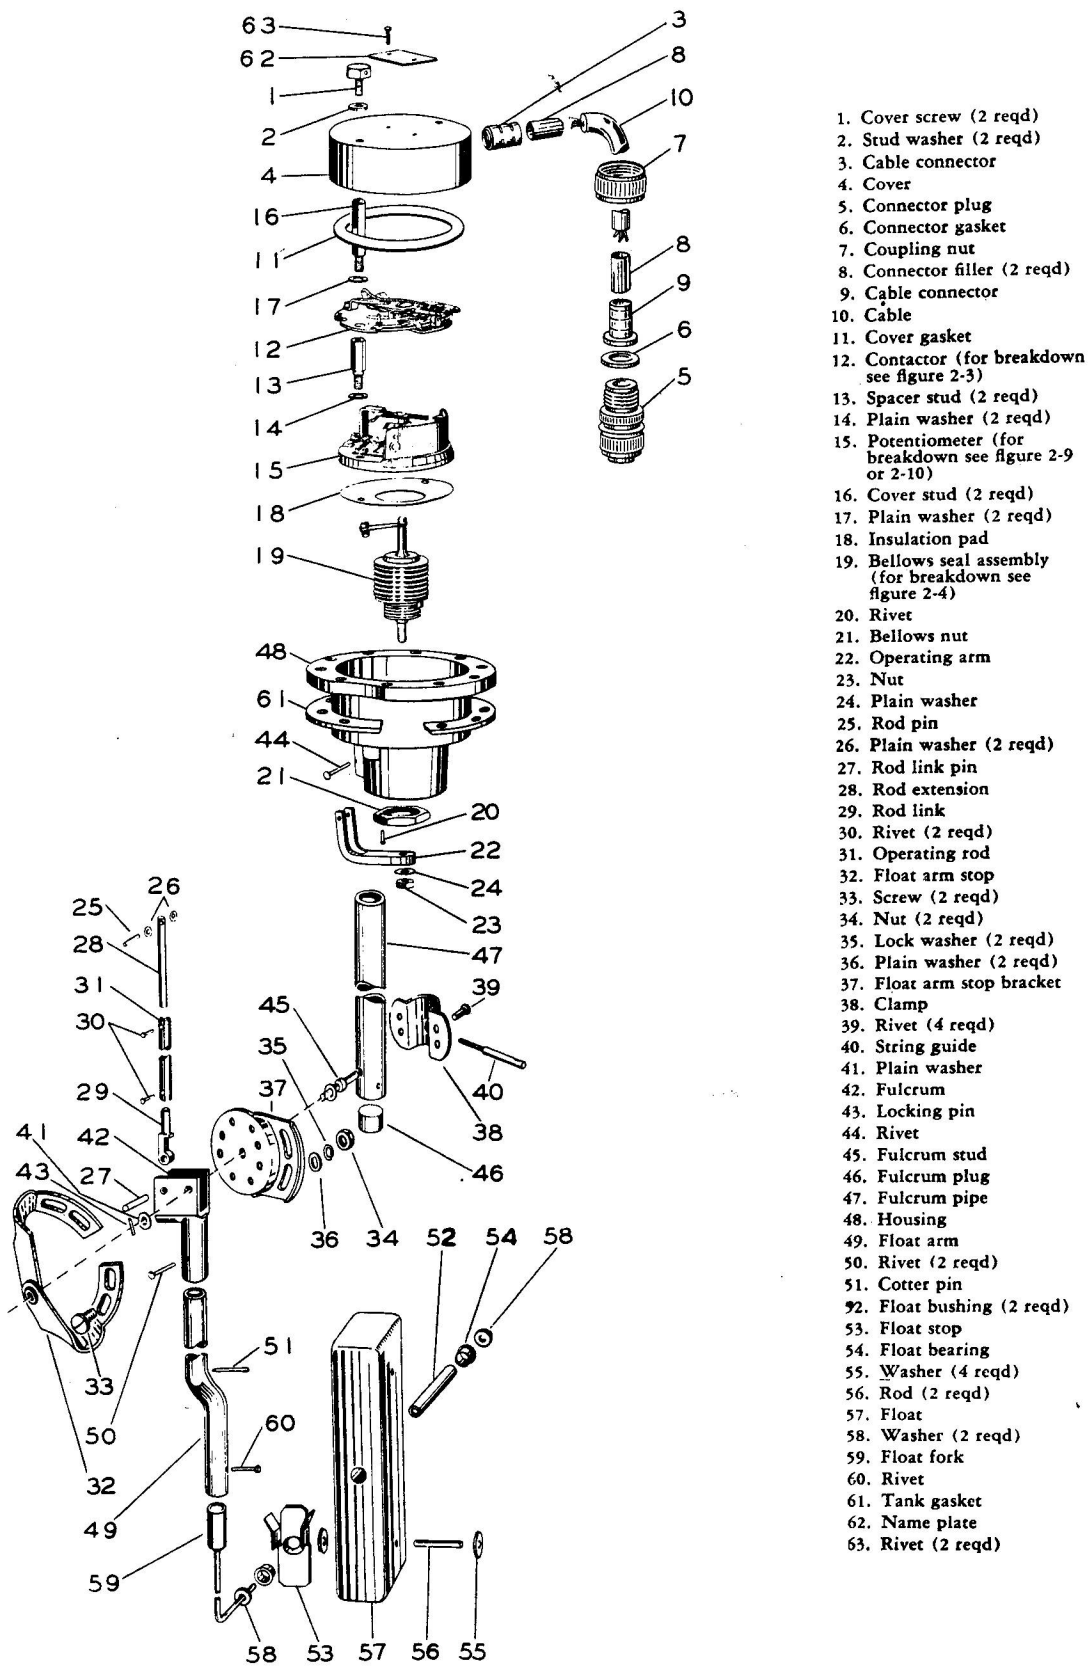
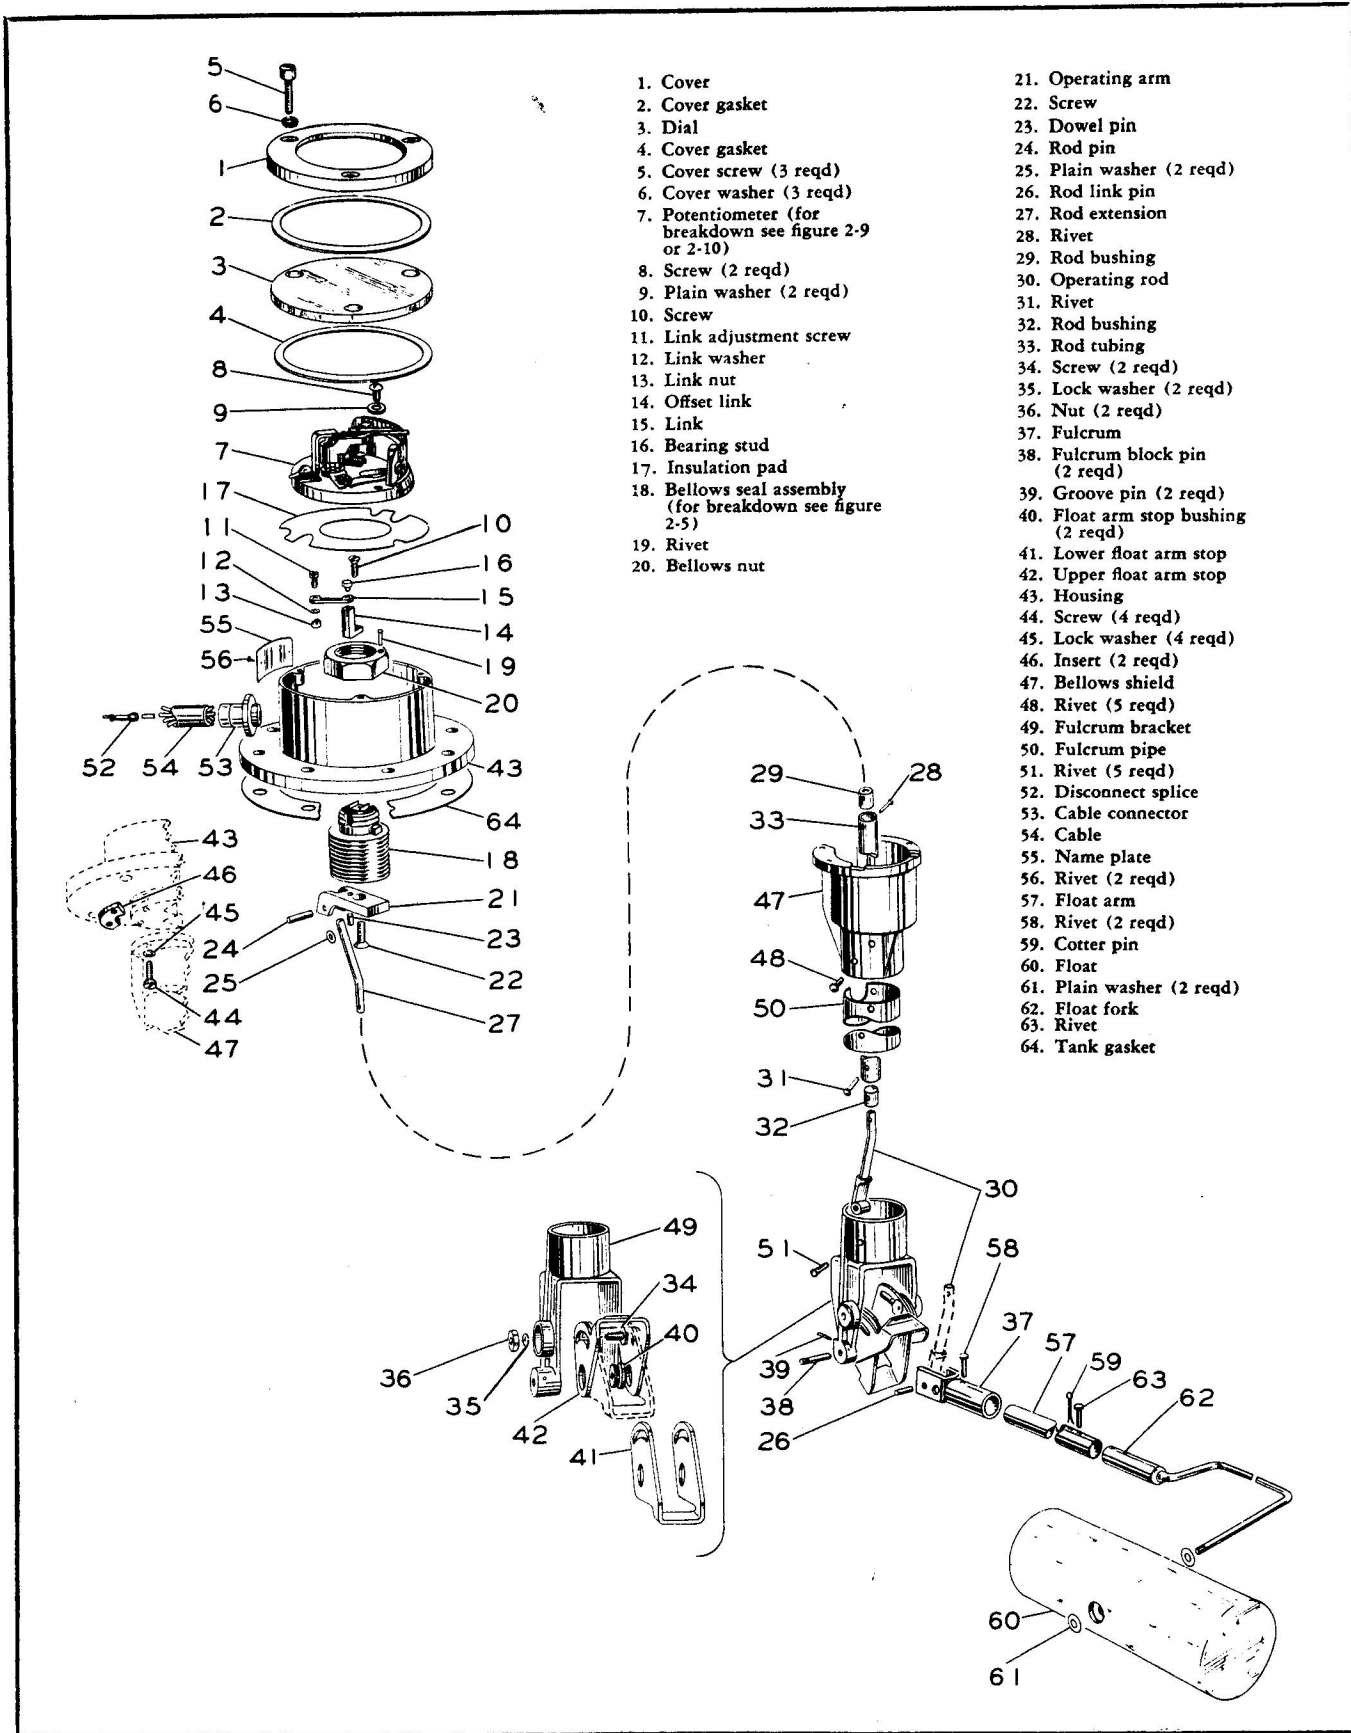

Figure 2-1. Typical Tank Unit of the Outside Operating Rod Type
Figure 2-2. Typical Tank Unit of the Inside Operating Rod Type
1-23. Most of the tank units covered in this handbook fall into two general types. On one type (see figures 1-1, 1-2, 1-3, 1-4, and 2-1), the operating rod assembly (28 thru 31, figure 2-1) is outside of the fulcrum pipe (47). On the other type (see figures 1-5, 1-7, 1-8, 1-9, and 2-2), the operating rod (30, figure 2-2) or operating rod assembly is inside the fulcrum pipe (50).
2-2. See figure 2-1 for typical tank unit of the outside operating rod type, or figure 2-2 for typical tank unit of the inside operating rod type.
2-4. Tank gasket (61, figure 2-1, or 64, figure 2-2) is removed when unit is taken off tank.
2-5. On tank units having an electrical cable (10, figure 2-1) attached to cover (4) by means of a cable connector (3) which is inserted into the cover and spun over, do not disassemble cable except in emergency. This is a moisture-proof fitting and reassembly is difficult.
2-6. If tank unit contains a contactor (12, figure 2-1), remove this assembly but do not disassemble it except under emergency conditions. This unit is procurable only as an assembly. Exploded view of typical contactor, figure 2-3, is for reference only.
2-7. REMOVAL OF POTENTIOMETER (15, figure 2-1, or 7, figure 2-2). Loosen link adjustment screw on top of bellows seal assembly (19, figure 2-1) or link adjustment screw (11, figure 2-2) and slide it out of slot in potentiometer contact arm assembly (6, figure 2-9).
2-8. REMOVING HOUSING AND BELLOWS SEAL ASSEMBLY (48 and 19, figure 2-1, or 43 and 18, figure 2-2).
2-9. TANK UNITS WITH OUTSIDE OPERATING ROD (figure 2-1):
2-10. TANK UNITS WITH INSIDE OPERATING ROD (figure 2-2):
2-11. REMOVAL OF FLOAT. Where float is held in place by pinching float fork of type shown as item 62, figure 2-2, file off end of float fork to remove float. Some floats are removed by taking out screws or locking pins.
2-12. REMOVING FULCRUM (42, figure 2-1, or 37, figure 2-2).
2-13. TANK UNITS WITH OUTSIDE OPERATING ROD (figure 2-1):
2-14. TANK UNITS WITH INSIDE OPERATING ROD (figure 2-2):
- 2-20. ELECTRICAL INSPECTION. If tank unit has an electrical cable, inspect cable and leads for wear or damage. On units with electrical connector plug (5, figure 2-1), unscrew coupling nut (7) and make sure wires are secured to lugs.
2-24. INSPECTION OF FLOAT ARM. Make sure float fork (59, figure 2-1, or 62, figure 2-2) and float arm (49, figure 2-1, or 57, figure 2-2) are not bent out of shape. For correct over-all dimensions of float fork and arm, see general dimension sketch on Specific Data Sheet.